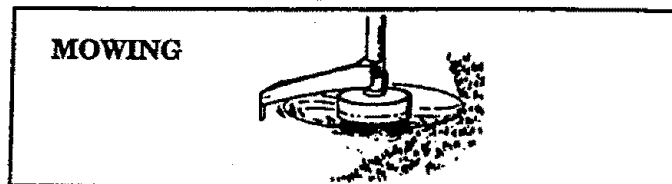

Figure 11
3. **MOWING**– Figure 11 . Your trimmer is ideal for mowing in places conventional lawn mowers cannot reach. In the mowing position, keep the line parallel to the ground. Avoid pressing the head into the ground as this can scalp the ground and damage the tool.